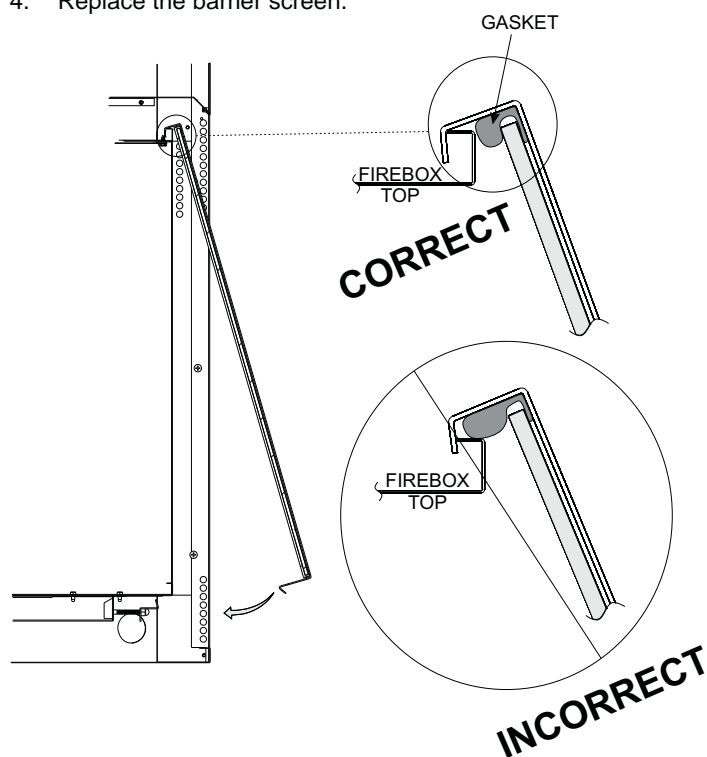

Figure 74
**Important: Do not allow the gasket across the top of the door to roll up on top of the firebox flange as shown in "Incorrect" view in Figure 74.**